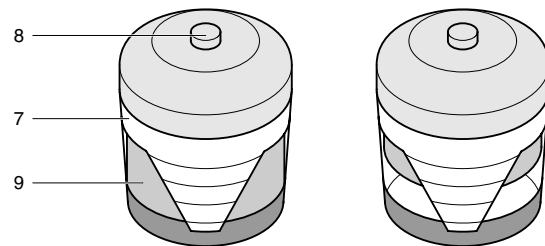

Fig. 5.3 Vacuum indicator
1. Release the snap clips (1) and remove the dust trap (2). Clean the trap.
2. Remove the element (4) from the housing (5).
5. Reset the vacuum indicator (Fig. 5.3).